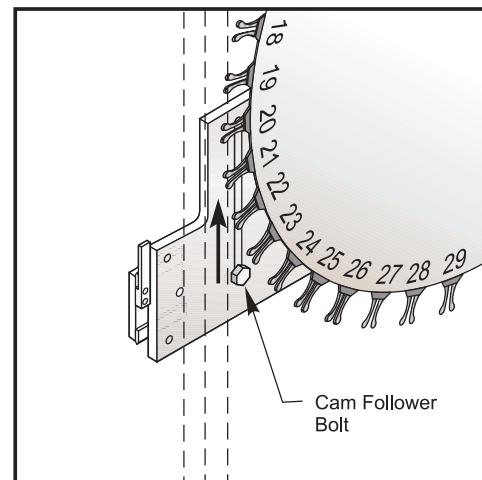

Figure 3.8-14
21. The next step requires the tool changer carousel to be manually shuttled into the machine enclosure. To shuttle the carousel out, its shuttle arm must be fully rotated. First, reach in through the tool changer's window, push up on the cam follower bolt (as shown in Figure 3.8-14), and then move the carousel to its fully extended position in the enclosure. Verify that it is fully extended by inspecting the location of the cam follower bolt. The cam follower bolt should bottom out at the end of the guide slot.